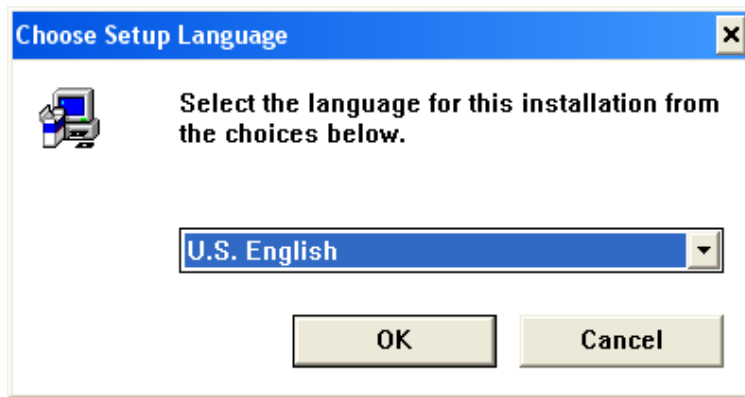

Figure 7-21: IDE Driver Language Option Menu
Step 6: The language option menu in **Figure 7-21** appears.
Step 7: Select a language from the menu in **Figure 7-21**. (English is used when describing the installation process below)